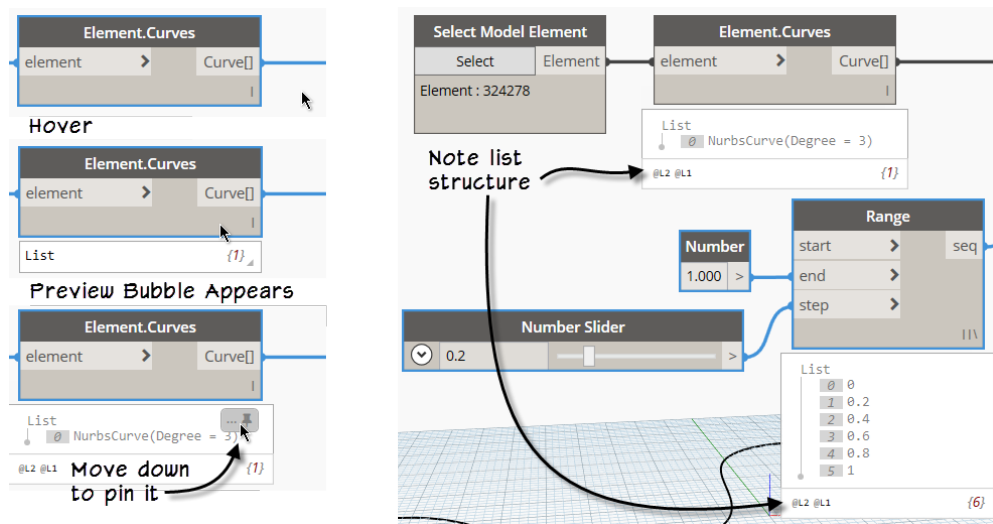

Figure 36
17. Repeat for the ***Range*** node (see Figure 36).